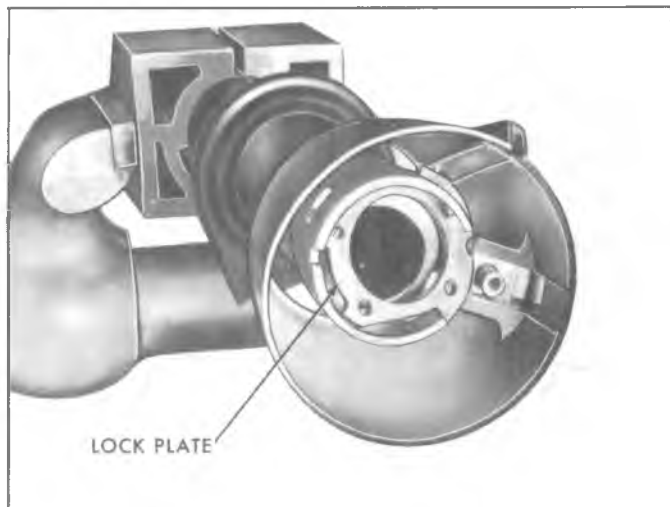

Fig. 29—Removing Lock Plate Assembly
15. Remove the lock plate by sliding out of the column notches, tipping the plate downward toward the housing (to compress the wave washer) and then removing as shown in Figure 29. Remove the wave washer.